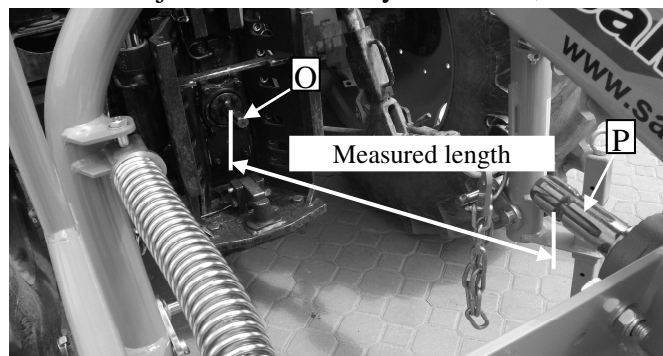
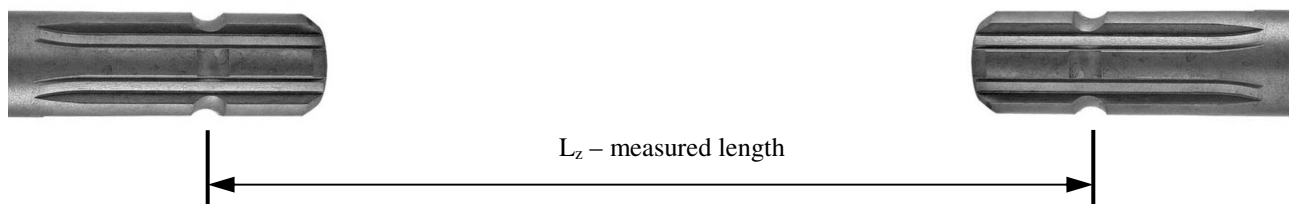

Fig. 16. Distance between tractor's PTO shaft and machine's drive shaft
Fig. 17. Properly measured length
- ❑ take measurement of distance between two shafts as provided on **Fig. 16** and **Fig. 17**,